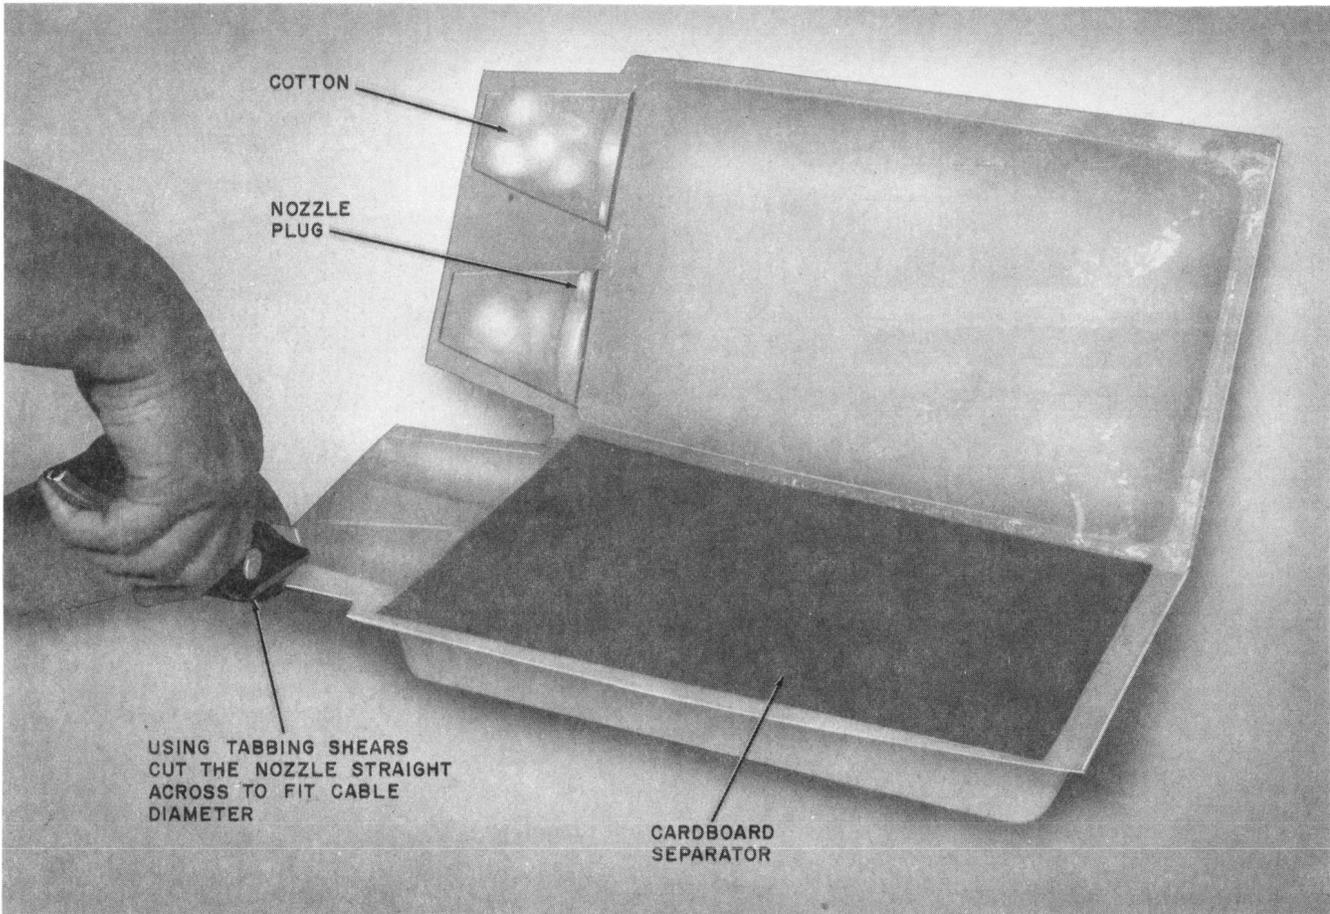

Fig. 24—Cutting Nozzle to Fit Cable Diameter
4.09 Using a B measuring tape, measure the cable diameter, then using tabbing shears (Fig. 24) cut the nozzles to fit cable diameter.